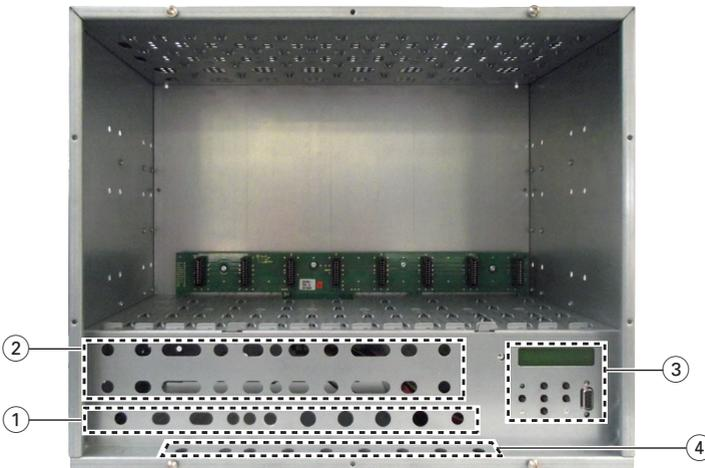
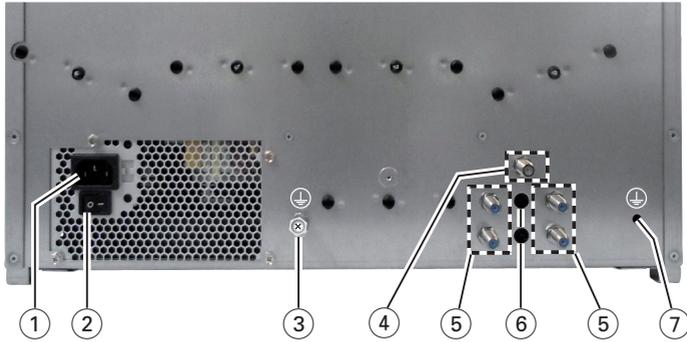

Fig. 2
Fig. 4
- Insert the required number of standard F terminals in the openings provided (knock-outs) in the front (page 7, fig. 2, ④) and/or rear panel (page 8, fig. 4, ⑥).